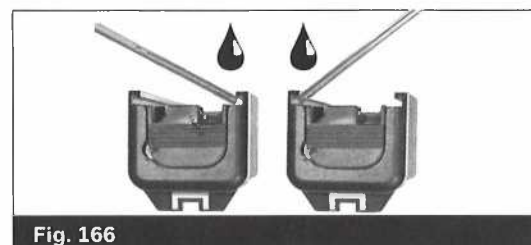

Fig. 166
- Spread one drop of gun oil or cleaner-lubricant-preservative along the entire length of each slide rail cut. (Fig. 166)